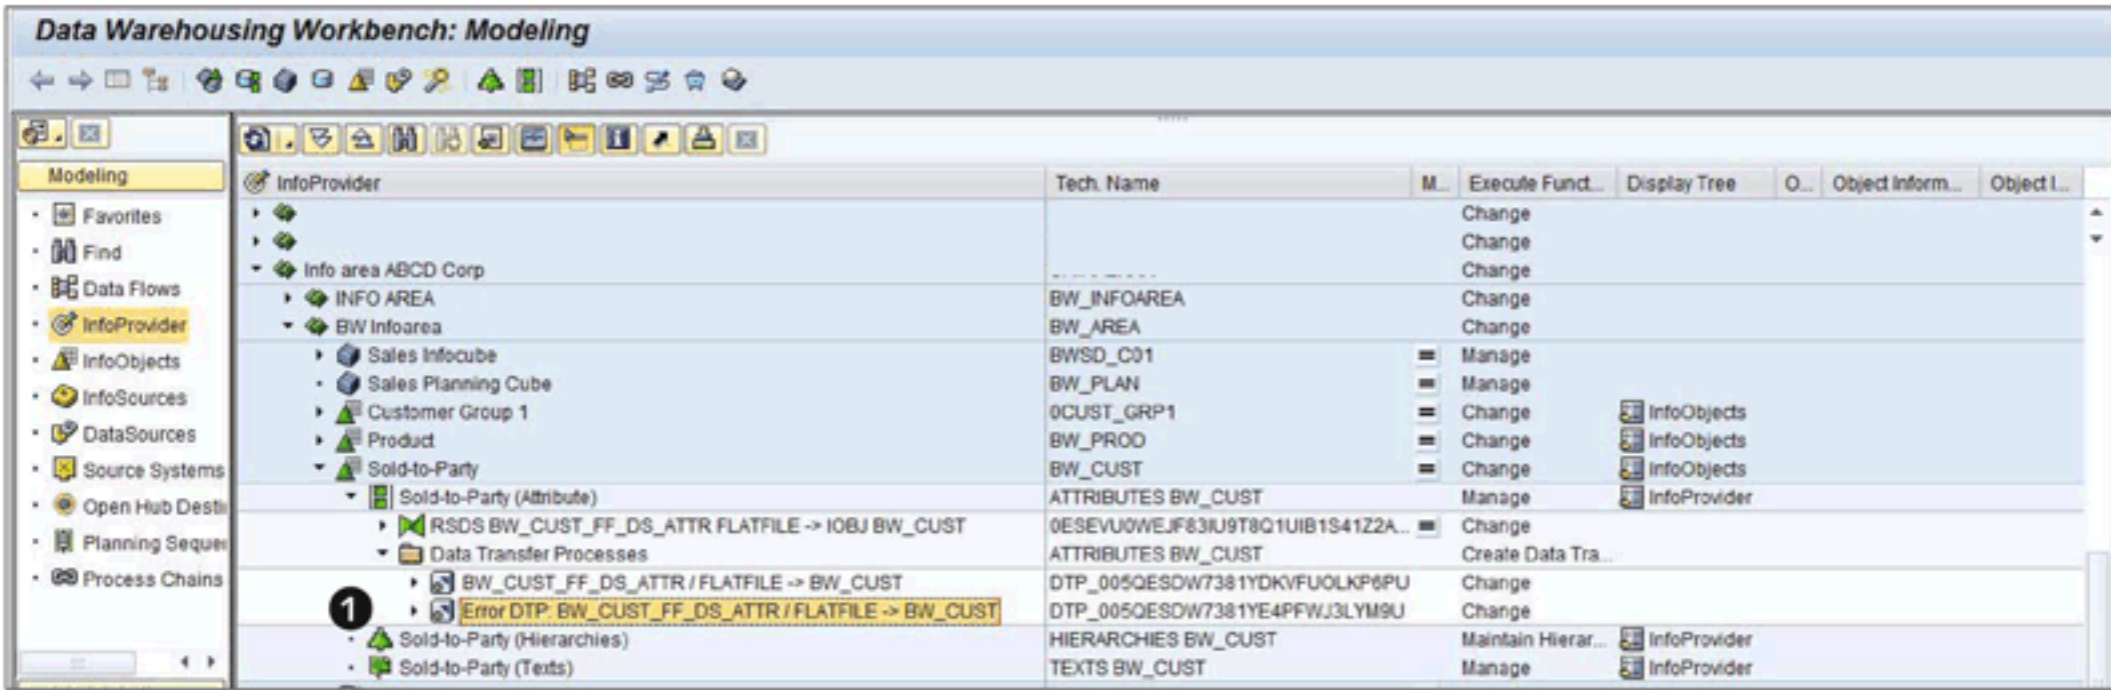

Figure 7.88 Error DTP in the DWW
The error DTP can be seen in the DWW under data target BW_CUST, as shown in ❶ of Figure 7.88. The same error DTP can be used every time the standard DTP encounters errors (after taking corrective action, of course).